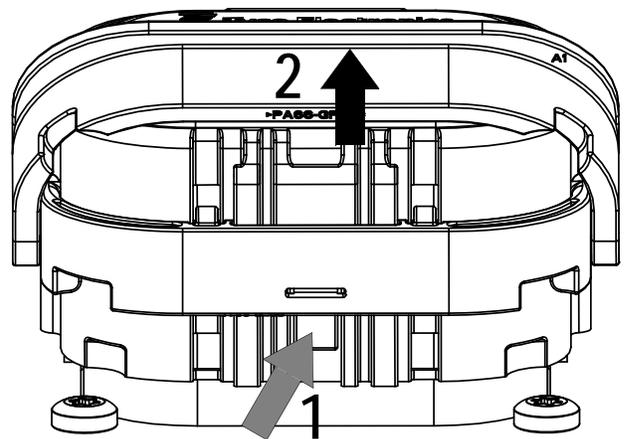

Figure 9
3. Depress the latch firmly. With the latch fully depressed, rotate the lever upward and away from the pack as shown in Figure 9.